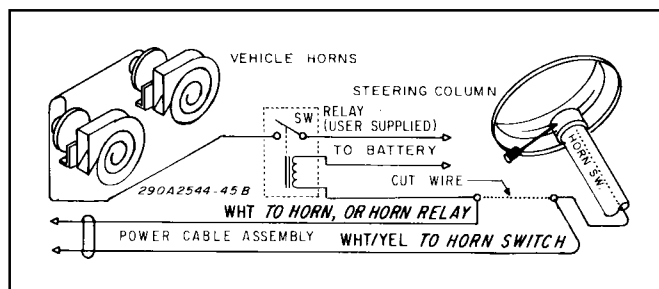

Figure 3-9. Horn Ring Connections.
- b. See figure 3-9. Splice the white/yellow power cable wire to the horn ring side of the wire that was cut in step a. Insulate the splice with the wire nuts (supplied).
d. Obtain a SPST relay of sufficient contact current capacity to activate the vehicle horn. Refer to figure 3-9 while performing the following steps.